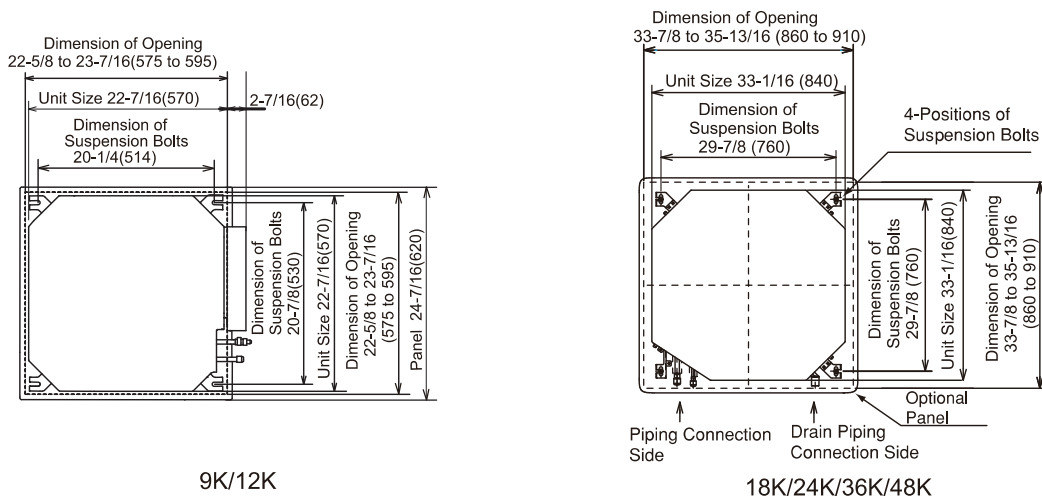

Fig. 3.2 Opening of False Ceiling and Suspension Bolts
- (2) Cut out the area for the indoor unit in the false ceiling and install suspension bolts, as shown in Fig. 3.2.